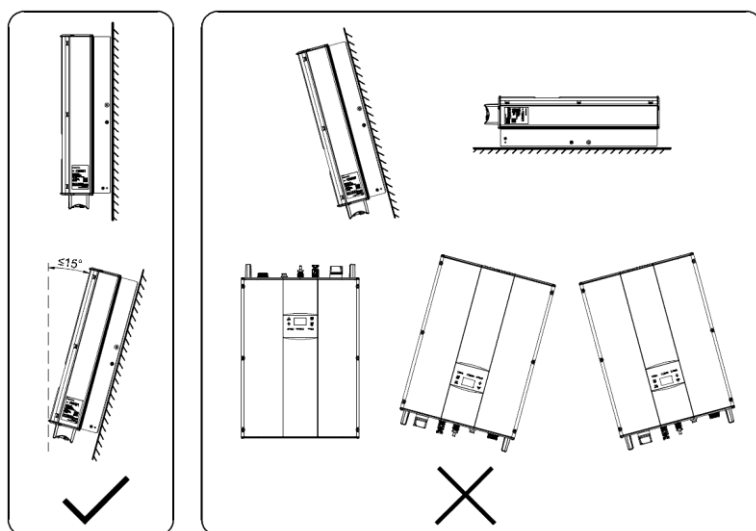

Figure 4.4 Installation position of the inverter
- (4) The ambient temperature of installation should be -25°C ~ 60°C .
- (5) The installation site should be away from electronic devices which can generate strong electromagnetic interference.
- (6) The inverter should be installed on firm and solid surface such as wall surface and metal bracket.
- (7) The installation surface should be vertical to the horizontal line, as shown in Figure 4.4.
- (8) The installation should ensure that the inverter is reliably grounded, and the material of grounded metal conductor should be consistent with the metal material reserved for the grounding of the inverter.
As shown in the Figure 4.4, the installation of the inverter should be vertical to the horizontal surface.